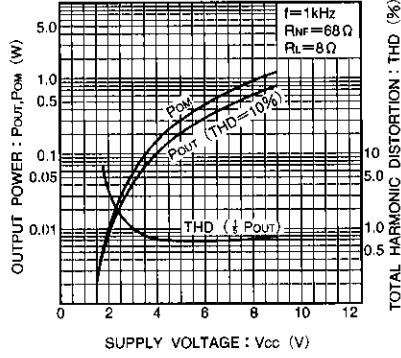

Fig. 2 Rated and max. output power and total harmonic distortion vs. supply voltage
- 1) High output. $P_{OUT} = 330\text{mW}$ ($V_{CC} = 6\text{V}$ and an $8\ \Omega$ load (THD = 10%)). See Fig. 2.